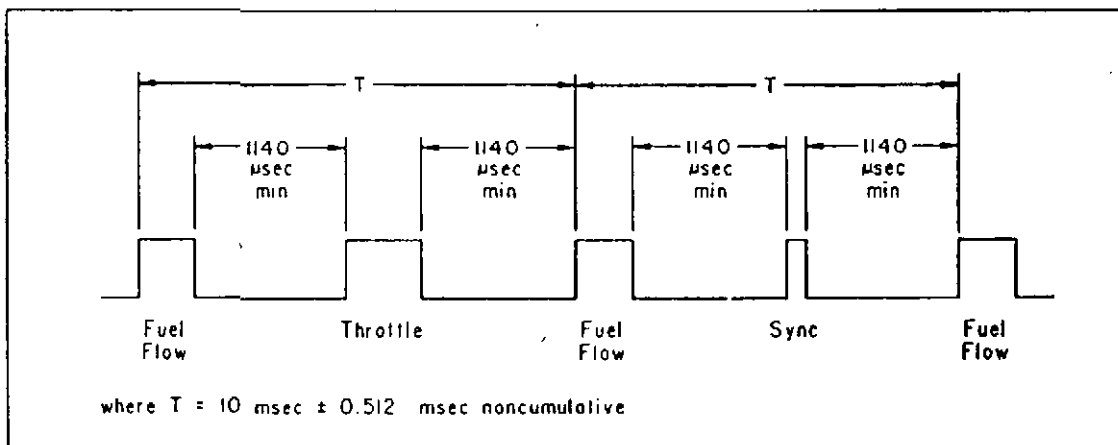

Figure 3 FF/T Signal Timing
The multiplex waveform shall have a period of 20 msec \pm .512 msec noncumulative. The waveform is synchronized by the synchronization (sync) pulse which shall be transmitted once each 20 msec cycle. There shall be one sync pulse, one throttle pulse and two fuel flow pulses each 20 msec cycle. The timing for the FF/T signal is defined in Figure 3 below.
3.3.1 Sync Pulse - The sync pulse shall have a width of $128 \pm 6 \text{ } \mu\text{sec}$. This pulse shall begin at least 1140 μsec after the training edge of the second fuel flow pulse as shown in Figure 3.
Fuel flow information shall be updated and transmitted every 10 msec in pulse-width-modulated form. This pulse shall begin at least 1140 μsec after the trailing edge of the throttle pulse and at least 1140 μsec after the trailing edge of the sync pulse and with 10 msec \pm .512 msec noncumulative between fuel flow pulses as shown in Figure 3. The fuel flow pulse shall be resolved into at least 256 discrete widths. The width of the pulse shall be a linear function of percent fuel flow as defined in Table 1 below.
The throttle pulse shall be transmitted once every 20 msec cycle between the two fuel flow pulses and shall be separated from each fuel flow pulse by at least 1140 μ sec as shown in Figure 3. The throttle pulse need only be updated every 40 msec.